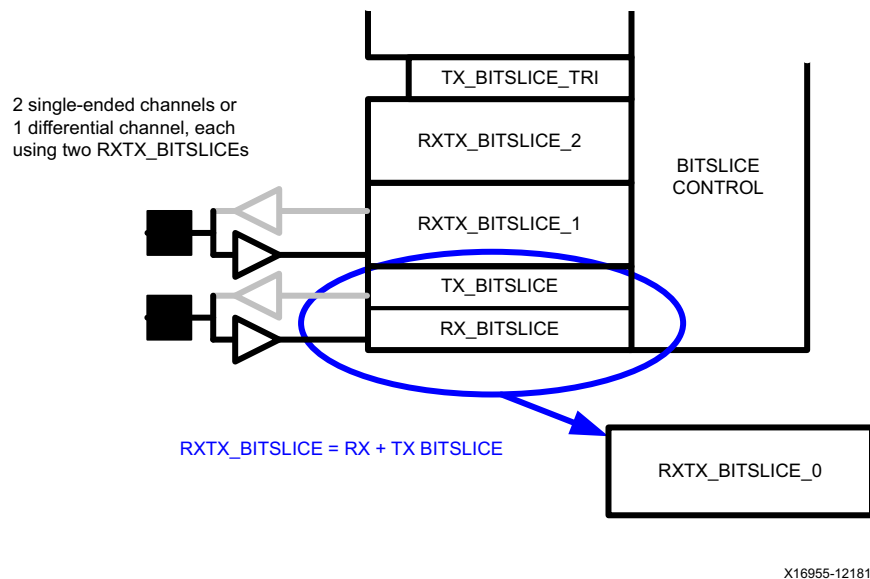

Figure 2-34: Two Single-Ended or One Differential RX Channel
- When using single-ended inputs, two inputs are necessary to calculate the single tap delay, because behind each input pad with input buffer (IBUF) there is a RXTX_BITSLICE or RX_BITSLICE having an input delay line and serial-to-parallel conversion engine (Figure 2-34).
- When using differential inputs, a single data channel input can be used to calculate the single tap delay. A differential input occupies two pads and thus covers two RXTX_BITSLICES. When a normal differential input buffer (IBUFDS) is used, only the even RXTX_BITSLICE of the two is used. When using a differential input buffer with differential output (IBUFDS_DIFF_OUT) one can use both RXTX_BITSLICES covered by the two input pads. This is the solution for measuring a single tap value for a single differential data channel (Figure 2-34).